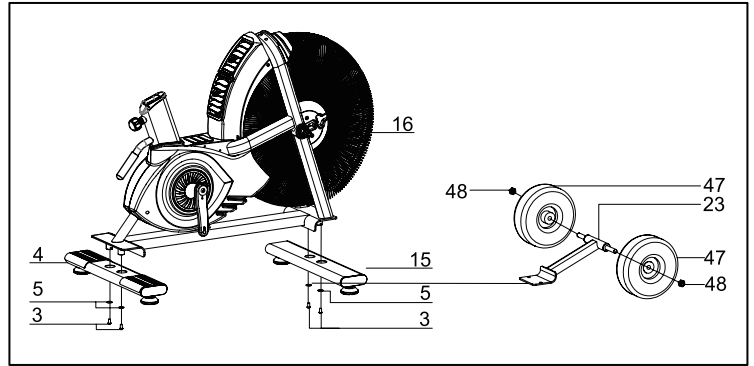

Fig. 1
STEP 1 (FIG. 1):
1. Attach the Front Stabilizer (15) to the Main Frame (16) using two sets of Flat Washers (5) and Bolts (1).
2. Attach the Rear Stabilizer (4) to the Main Frame (16) using two sets of Flat Washers (5) and Bolts (1).
1. When powered on, the LCD will fully display for 1 second (as shown in Figure 1) with a long beep sound.
(FIG 1)